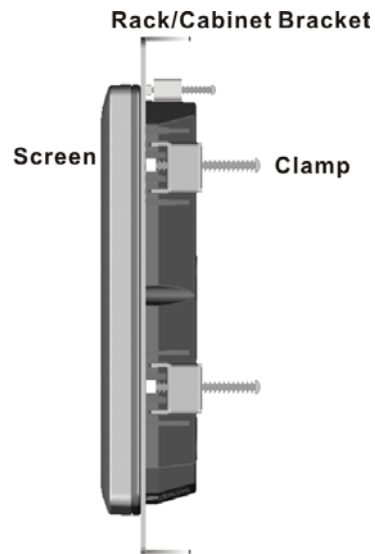

Figure 3-18: Secure the Rack/Cabinet Bracket
- Step 3:** Tighten the screws that pass through the rack mounting clamps until the plastic caps at the front of all the screws are firmly secured to the bracket (**Figure 3-18**).